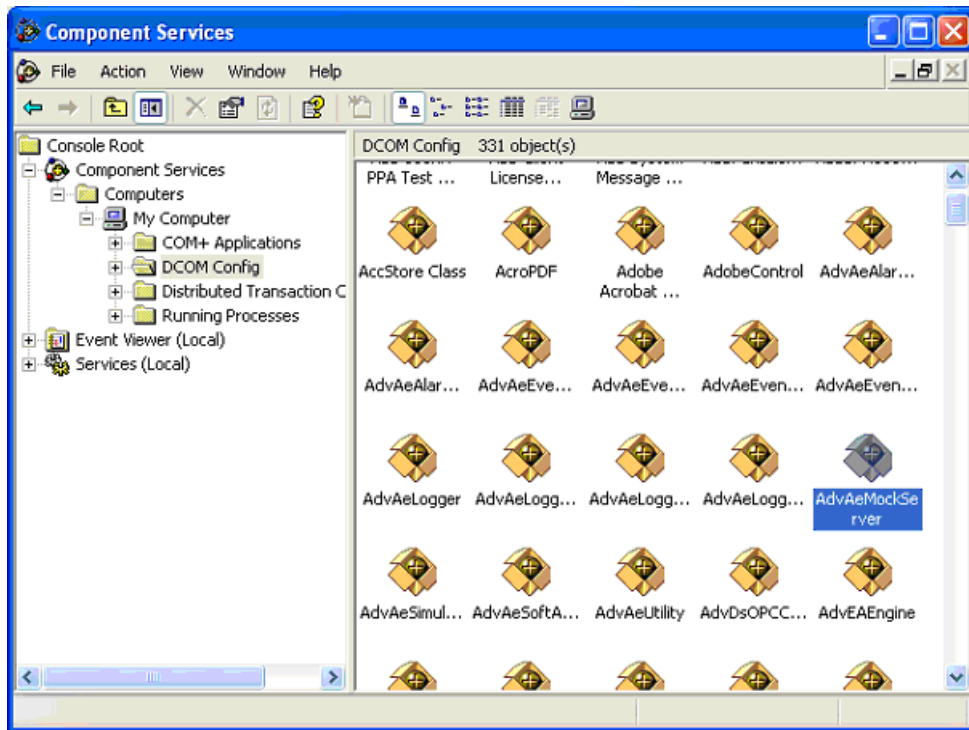

Figure 274. Component Services
2. Locate the server that should be activated remotely. See Figure 274.